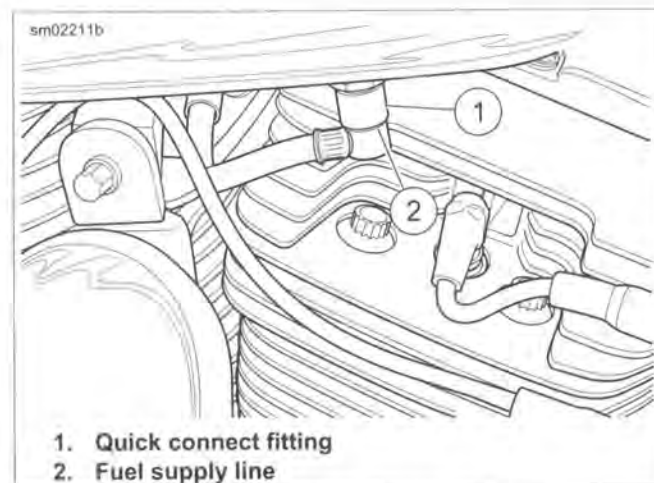

Figure 4-15. Fuel Supply Line Fitting
2. See Figure 4-15. Pull up on chrome sleeve of quick-connect fitting (1) and pull down on fuel supply line (2) to disconnect.
5. See Figure 4-15. Install fuel line fitting.